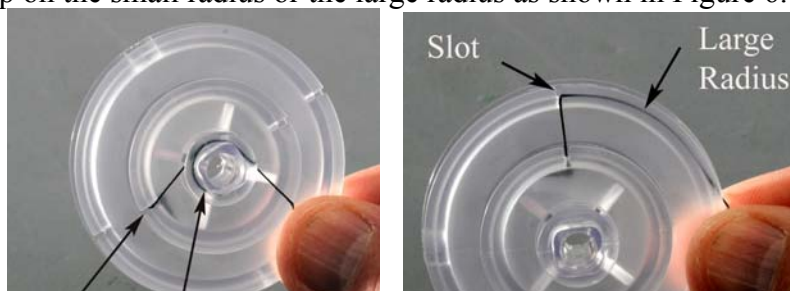

Figure 6: By running the thread through the slot, you can change the radius that the thread is wound around without having to re-tie the thread.
9. The thread will naturally wind up on the medium pulley. Using the slots, you can force the string to wind up on the small radius or the large radius as shown in Figure 6.
10. Leaving all other parameters the same, you will now take a run of data using the large pulley on the Three-step Pulley. Adjust the black pulley for the large pulley, and wind on a few turns of thread. Make sure that it is wound on the large pulley. Look at Figure 6 if you have problems.
13. Use Equation (3) to calculate the new torque.
14. Use Equation (2) to calculate the rotational inertia (I). Do you get about the same value? Should it be?